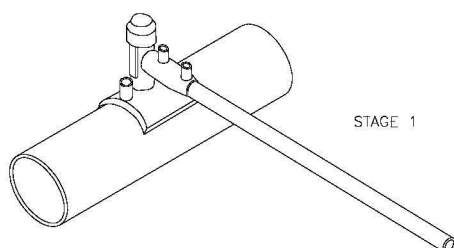

Figure A38 - PE service
1. Excavate to the main and remove cap from the tapping tee and wind the cutter to the down position. Figures A38 & A39.